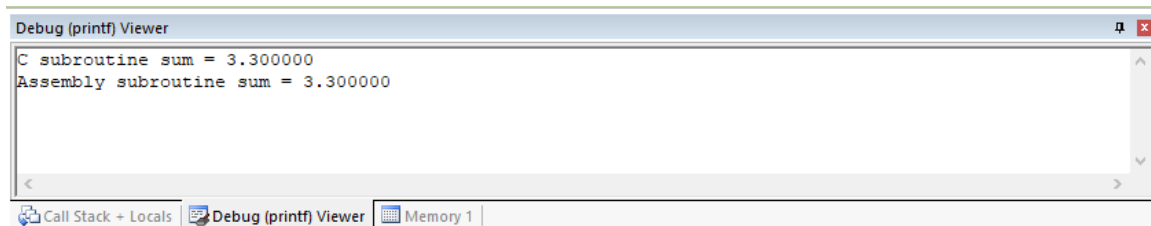

Figure 25: The program output.
5. Now build the project (F7) and enter debug mode (Ctrl+F5). When you run the project, you should see the expected output as shown in Figure 25.